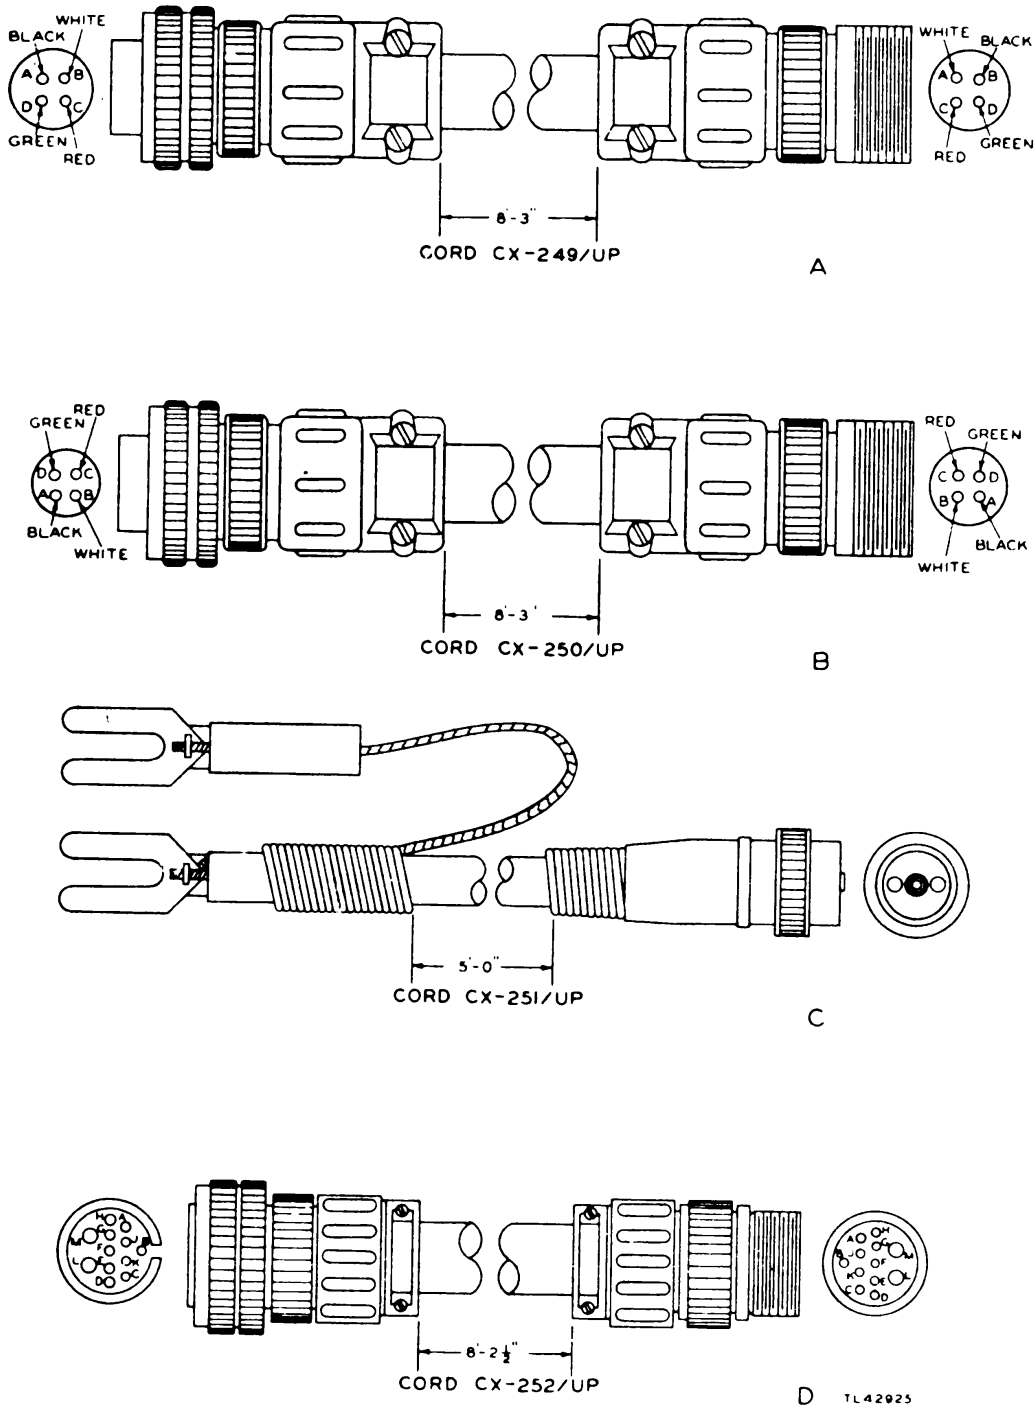

Figure 15. Details of Cords CX-249/UP, CX-250/UP, CX-251/UP, and CX-252/UP.
- (1) Range Unit BC-1062 to Range Indicator BC-1088.
- (2) Field Rectifier RA-71-B to Junction Box JB-71.
**i. Cord CX-249/UP (fig. 15-A).** This cord is an 8-foot 3-inch length of four-conductor cable, type M.C.S.-4 as made by General Electric Company, or the equivalent. It is terminated at one end with a plug Amphenol AN-3106-18-4P type 102 and at the other end with a receptacle Amphenol 97-5103-18-4S type 102. This cord is used to connect the following components:
- (2) Plan Position Indicator BC-1092 to Plan Position Unit BC-1058.
**j. Cord CX-250/UP (fig. 15-B).** This cord is an 8-foot 3-inch length of four-conductor cable, type M.C.S.-4 as made by General Electric Company, or the equivalent. It is terminated at one end with a plug Amphenol AN-3106-18-4S type 102 and at the other end with a receptacle Amphenol 97-5103-18-4P type 102. Two of these cords are provided to connect the following components:
- (2) Plan Position Unit BC-1058 to Plan Position Indicator BC-1092.
**k. Cord CX-251/UP (fig. 15-C).** This cord is a 5-foot length of No. 20 AWG, 26/34T, two-conductor shielded cable as made by the General Cable Company, or the equivalent. It is terminated at one end with a connector No. 80M and at the other end with two spade terminals colored red and black. This cord is used with the test oscilloscope.
**l. Cord CX-252/UP (fig. 15-D).** This cord is an 8-foot 2½-inch length of General Electric type CW-1273, 14-conductor cable, or the equivalent. It is terminated at one end with a plug Amphenol AN-3106-28-8P and at the other end with receptacle Amphenol 97-5103-28-8S. Only 12 of the conductors are wired to